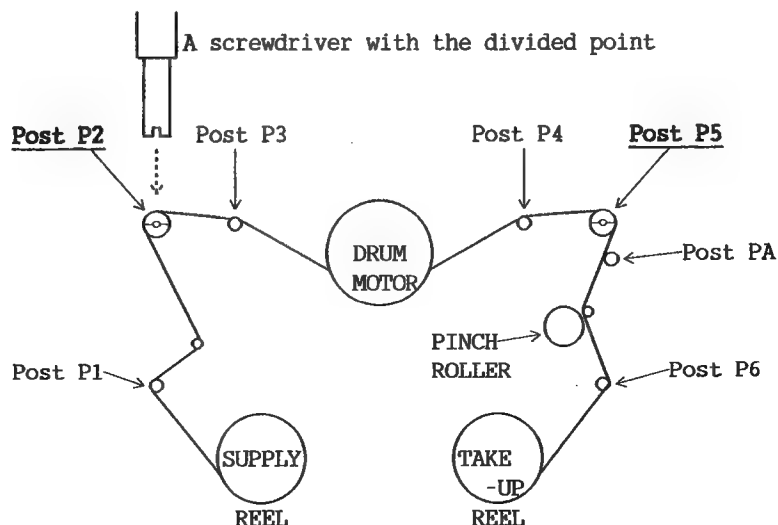
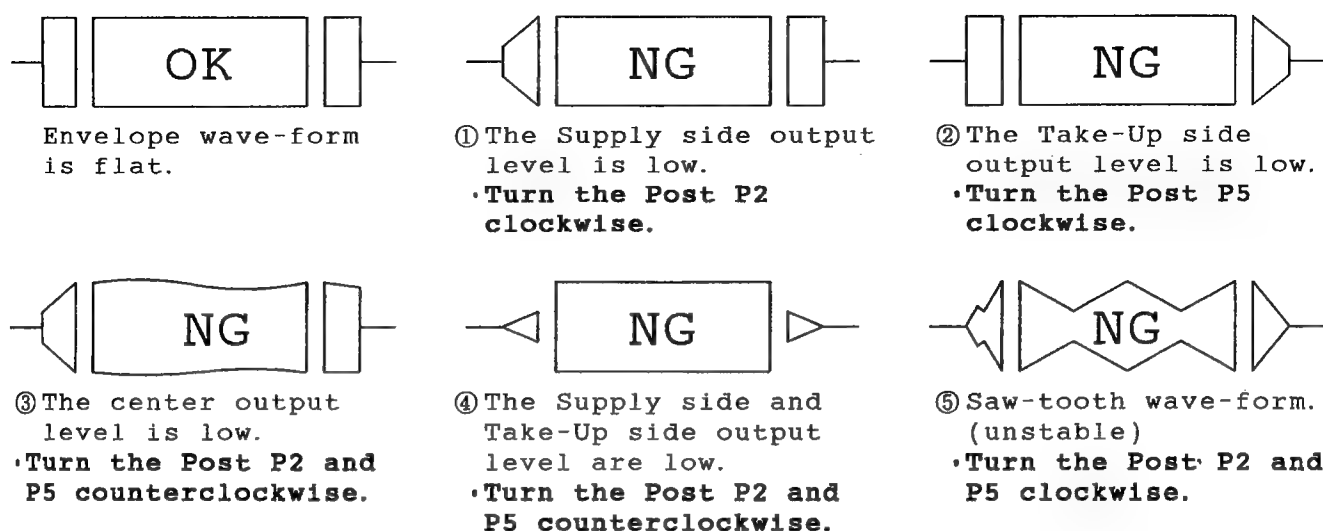

Fig. 12
Fig. 13 Envelope wave-forms
8. Adjust the hight of the Supply Side Guide Roller(Post P2) and the Take-Up Side Guide Roller(Post P5) to make the envelope wave-form flat. (See Fig. 12 and Fig. 13)